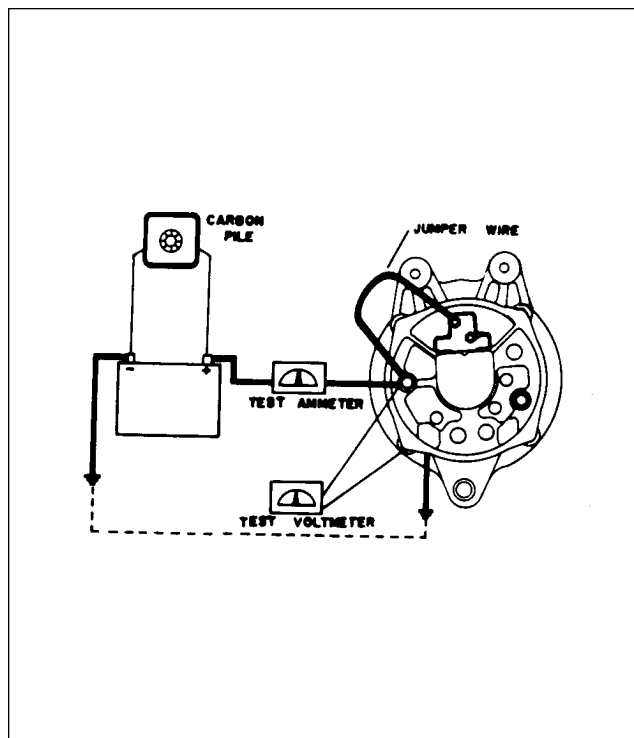

Figure 11-34. Testing Alternator
- a. Wiring connections for bench testing the alternator are shown in Figure 11-34. Refer to the individual specification pages for output test figures. Adjust the carbon pile, if necessary, to obtain the specified voltage.